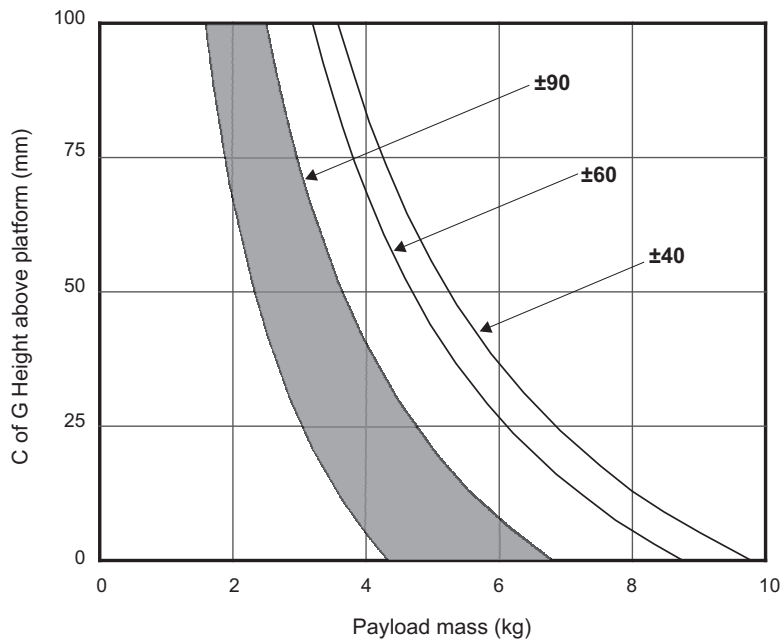

Fig. 3 Counterbalance chart
Capacity range @ 55 mm C of G - See balance chart (Fig. 3).	2.1–5.0 kg (4.6–11 lb)
The balance system is easily adjusted using the Perfect Balance knob (10) located on the rear of the head. The head supports payloads weighing between 2.1 to 5.0 Kg (4.6–11 lb). Maximum and minimum payloads that can be balanced and tilt ranges are dependent on the weight of the camera, accessories and on the Centre of Gravity (C of G) height. The counterbalance chart (Fig. 3) shows the range of load and C of G height that can be maintained in balance. The shaded area of the chart corresponds to those load/C of G combinations that can be balanced over the full tilt range. The areas to the right indicate the progressively reducing tilt range with greater load and higher C of G. Where a load/C of G combination falls outside of the chart it will be necessary to increase or decrease the weight or the C of G height—if possible—to enable the head to balance the load.
The counterbalance chart (Fig. 3) illustrates the relationship between load and camera Centre of Gravity (C of G) height for the head. The chart can be used to ascertain the suitability of the head for any given combination of camera, lens and accessories. The shaded area of chart corresponds to those load/C of G combinations that can be balanced over the full tilt range. The areas to the right indicate the progressively reducing tilt range with greater load and higher C of G. Where a load/C of G combination falls outside of the chart it will be necessary to increase or decrease the weight or the C of G height to enable the head to balance the load.
NOTE: Maximum tilt angle is less than 90° for heavy payloads with a high C of G - refer to the counterbalance chart (Fig. 3).